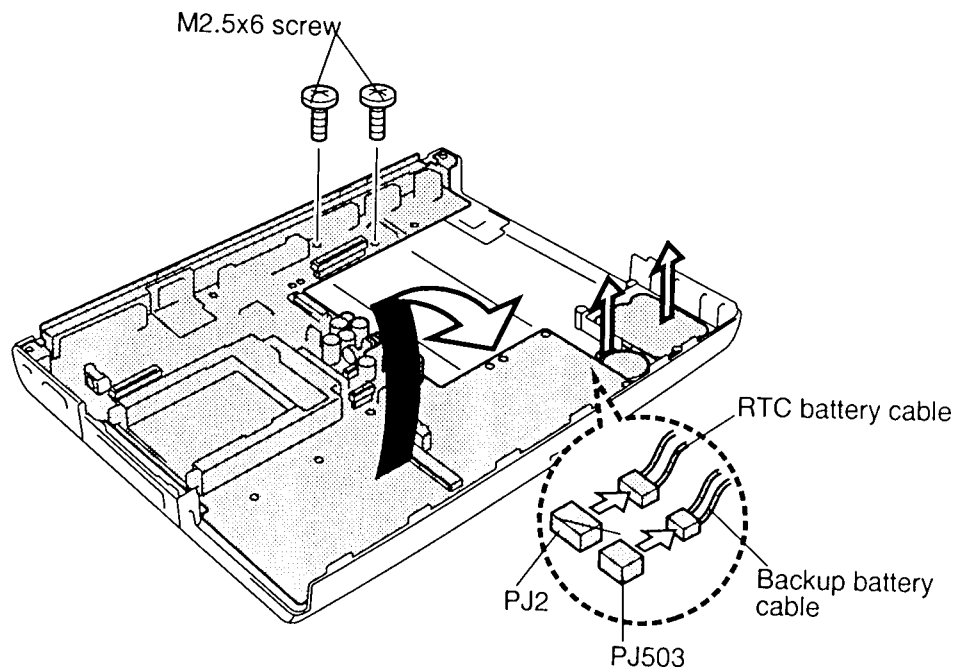

Figure 4-20 Removing the system board
To remove the T2110/T2130 series system board and backup/RTC battery, follow the steps below and refer to figure 4-20.
3. Remove **two M2.5x6 screws** on the system board (figure 4-20).
4. Push in the I/O port and system board to clear the frame, then lift up the system board with its cover (figure 4-20).
5. Disconnect the **RTC battery cable** from **PJ2** and lift out the **RTC battery** (figure 4-20).
6. Disconnect the **backup battery cable** from **PJ503** and lift out the **backup battery** (figure 4-20).
To install the T2110/T2130 series system board and backup/RTC battery, follow the steps below and refer to figure 4-20.
2. Connect the **backup battery cable** to **PJ503** on the system board (figure 4-20).
3. Connect the **RTC battery cable** to **PJ2** on the system board (figure 4-20).
4. Secure **two M2.5x6 screws** on the system board (figure 4-20).